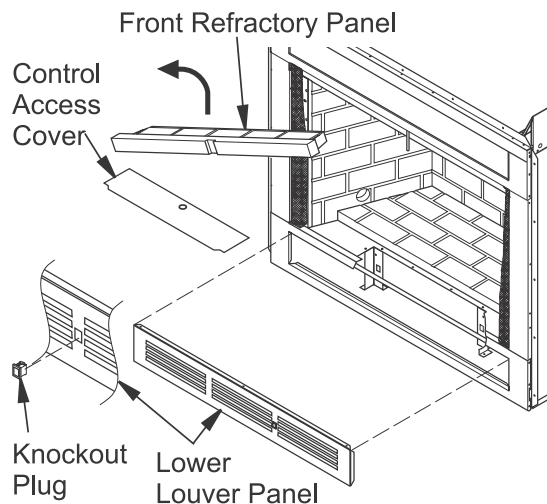

Figure 11 - Accessing Blower Compartment (Controls Not Shown for Clarity)
On 32" models only, the blower must be installed by removing the lower face panel and placing blower into its proper mounting position. The 36" and 42" models can use this method or remove the bottom front refractory brick liner and access panel to allow installation through the firebox bottom (see Figure 11).
Accessibility to the bottom on 36" and 42" models only, can also be gained through the access panel underneath the bottom front refractory brick liner. Lift the bottom front refractory brick liner up and out of the firebox floor, exposing the rectangular shaped access panel (see Figure 11, page 13). The sides and back refractory brick liner pieces do not have to be removed. Lift access panel out by using finger holes. Blower accessory BK or BK3 can now be installed.
7. Remove knockout plug from louver panel by pressing top and bottom retaining clips (see Figure 11, page 13).
1. Remove knockout plug from louver panel by pressing top and bottom retaining clips (see Figure 11, page 13).